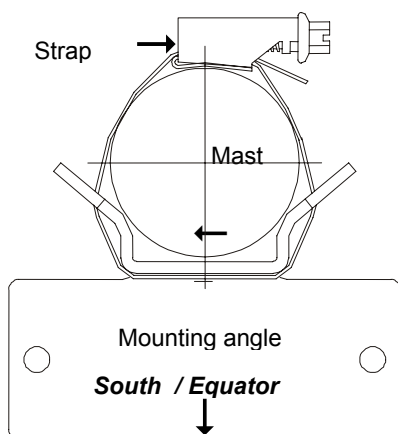

Figure 10 : Strap, Mast, Mounting angle
First, the mounting angle (with or without housing) should be fastened at the mast. Because of the shading effect of the mast the angle is to be mounted at the highest possible place. Align the angle to the south acc. to **Figure 10** ($\pm 10^\circ$, Northern hemisphere), and fasten it at the top of the mast. It is advisable to have a second person holding the Laser Precipitation Monitor during the mounting. In case no second person is available, it is also possible to separate the mounting angle from the Laser Precipitation Monitor (2 nuts M6 below, 2 screws above [accessible after removing the housing cover]).
3. Put the free end of the prepared clamp around the mast and the mounting angle, and screw it on (**Figure 10**).